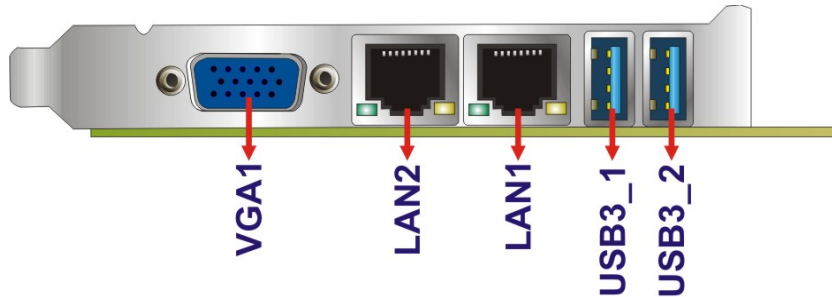

Figure 3-27: External Peripheral Interface Connector
CN Location: See Figure 3-27
- CN Location:See Figure 3-27